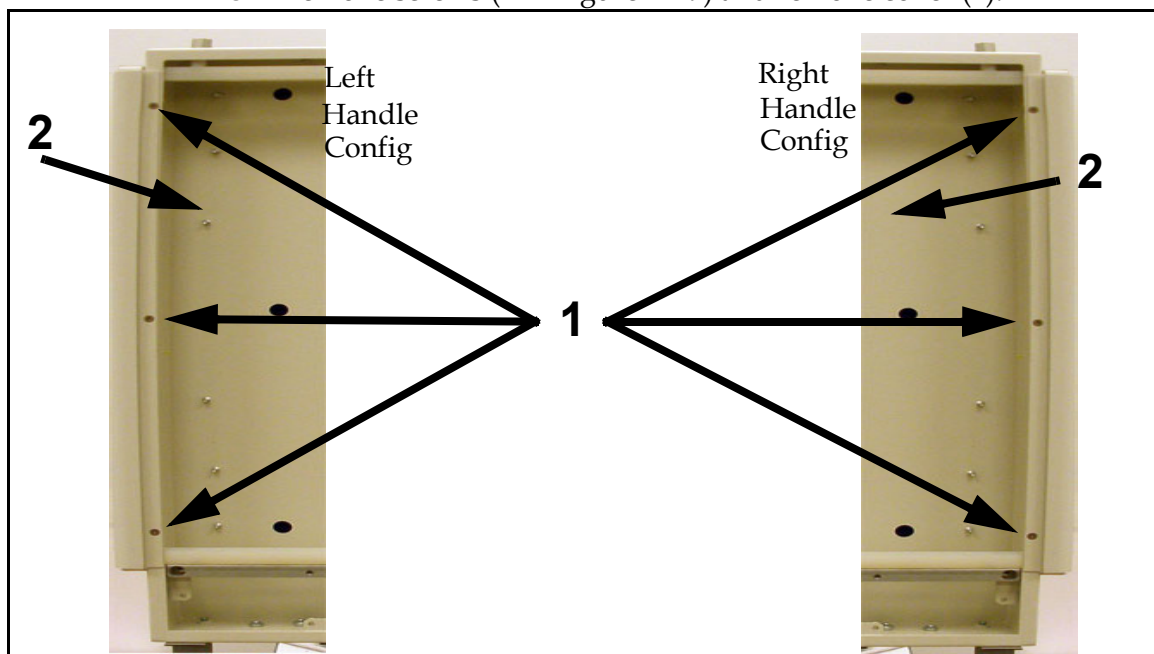

Figure E-29. Front Cover Removal
34 Remove screws (1 in Figure E-29) and remove cover (2).